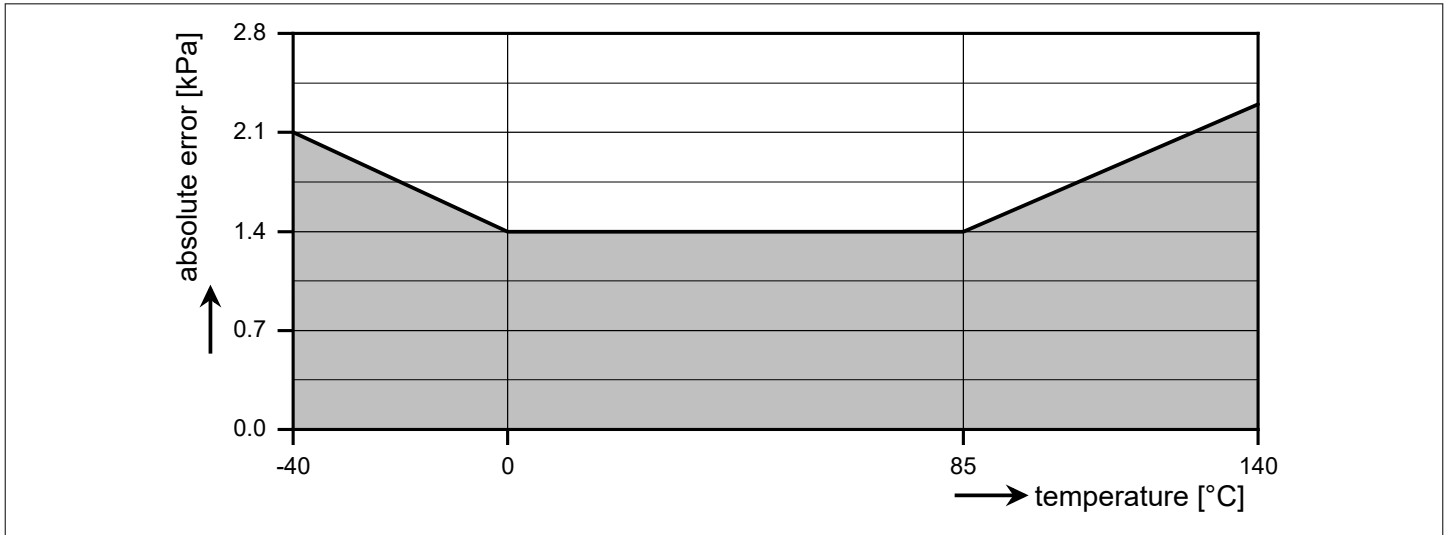

Figure 5 Accuracy for pressure acquisition
- 1) For more details see Figure 5 in section Overall accuracy